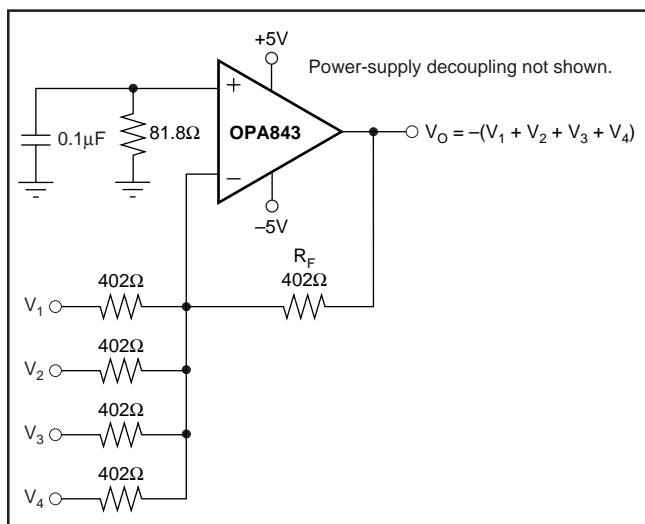

FIGURE 5. Wideband Inverting Summing Amplifier.
One common application for a wideband op amp like the OPA843 is to sum a number of signal sources together. Figure 5 shows the inverting summing configuration that is most often used. This circuit offers the benefit that each input sees an input impedance set only by its individual input resistor, since the summing junction (inverting op amp node) is a virtual ground. Each input is non-interactive with every other. However, the bandwidth from any input to the summed output is set by the op amp noise gain (NG), which is equal to the noninverting voltage gain. Therefore, each inverting channel may have a low gain to the output (like the -1 shown in Figure 5); this noise gain will set the frequency response and the loop stability. The noninverting gain for Figure 5 is equal to $+5$, which will give a 260MHz bandwidth at a gain of -1 for each of the input signals.